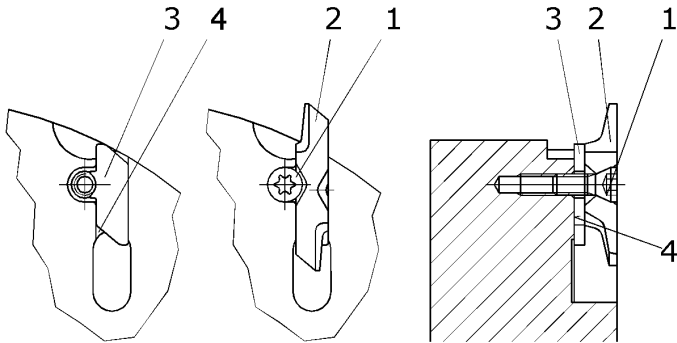

Fig.1
(See Fig. 1)
6. Carefully insert the reversed or new four-corner knife (see Fig. 1).